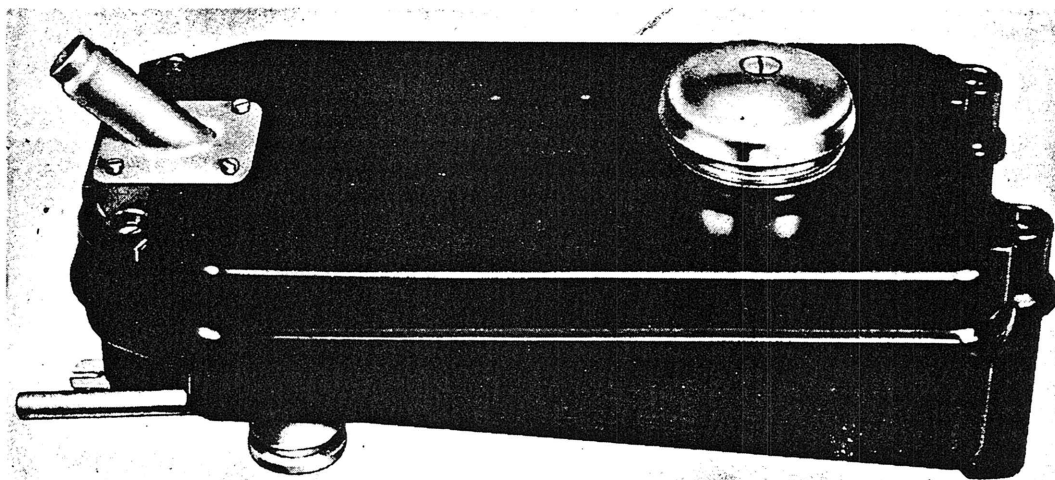

Fig. 1. Oxygen economizer, Mk. 4
4. The economizer, a general view of which is given in *fig. 1*, is constructed of moulded material and is divided into an upper section and a lower section. The lower section carries three external fixing lugs and an inlet pipe; the inlet pipe can be swung through approximately 180 degrees for purposes of installation. The upper section carries, externally, the outlet tube which can be attached in any of four positions. A flexible outlet tube is fitted between this tube and the user's mask. There is also a screened vent hole or breather which, when the screen is removed, permits observation of the interior.